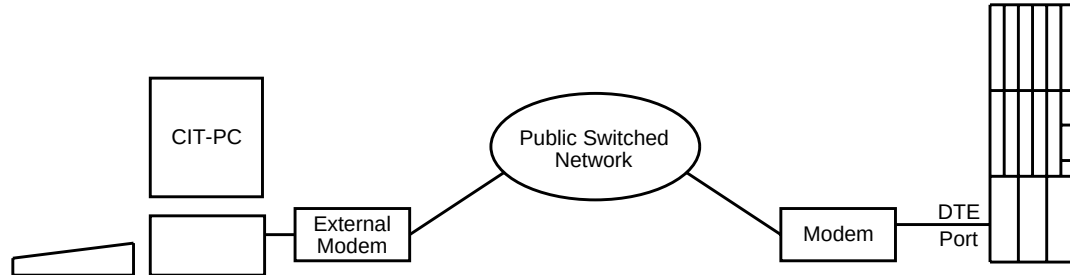

Figure 1 - External Modem Configuration
Overview: This procedure is used to access a distant OLS network element (NE) from a local craft interface terminal (CIT). Some of the more common CIT access configurations are shown in Figures 1 through 4. Other configurations exist with access gained through local company procedures. Once access is gained, the OLS network element responds to any CIT selections just as if you were physically connected to it.
OLS Network Element Location (Refer to Figures 1 and 2)
- e. Remove the connector at the PC serial port and plug into the CIT (DTE) connector at the interconnection panel (Low Speed Shelf - System Controller) of the OLS network element. Dial-up access to the network element via a 2400 baud modem is now ready. See Figures 1 and 2 for the DTE port connection.
If **external modem (Figure 1)**, then continue with Step 8.